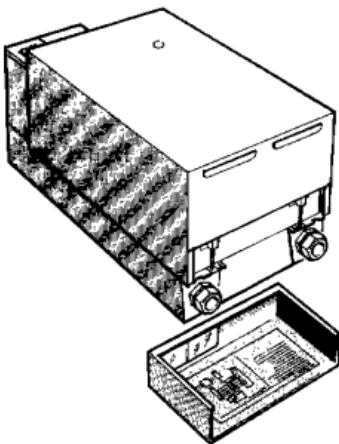

Fig.5
2.1 Unpack the boiler - see Fig. 5.